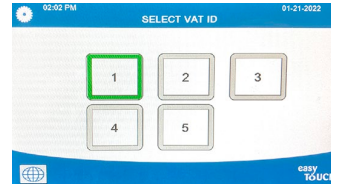

Figure 31
- Attach the controller to the bezel reversing steps 4, 5 and 6. Attach using the two (2) screws removed in step 4. **Continued on the next page.**
27. For new controllers without a locator wire, the Vat ID must be set up correctly to operate correctly and avoid a duplicate Vat ID error. At bootup, if a **DUPLICATE BOARD VAT ID** is detected, **ALL** controllers display the VAT ID setup screen (see Figure 31). Select the correct VAT ID for **each vat**. Vat ID #1 is far left controller. Vat ID #2 is the next controller to the right, etc. If changes are required, go to Service>Service>1650>Tech Modes>Select Vat ID. Ensure the Vat ID is set up for correct vat ID number. Once all VAT IDs are selected, power cycle the fryer battery using process in Step 2 on the first page.